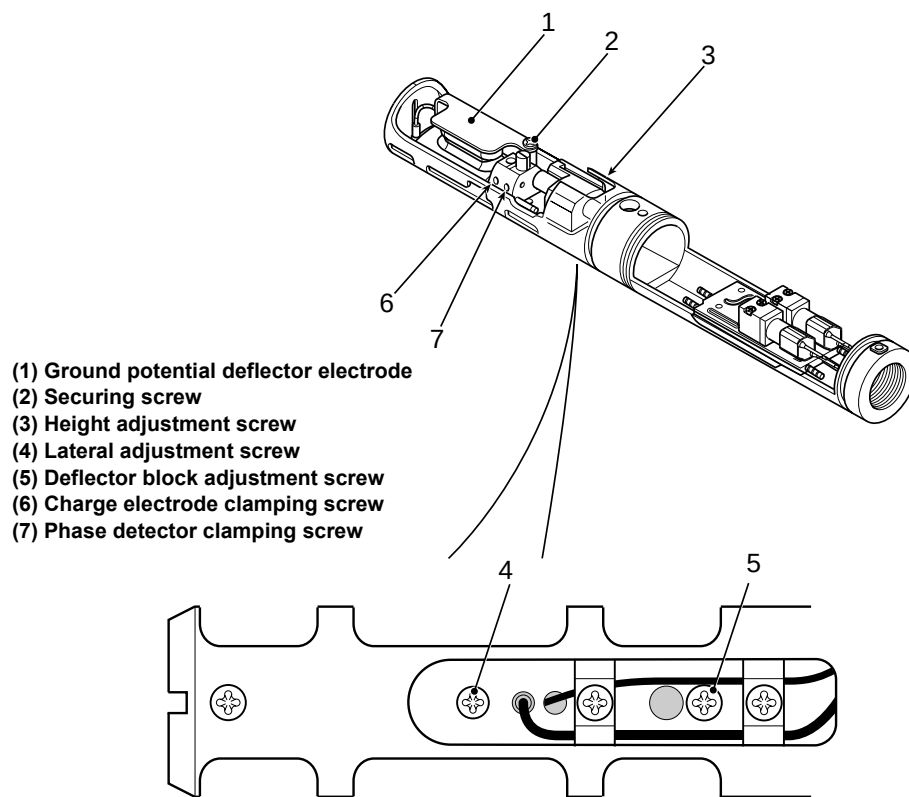

Figure 11-7. Printhead Adjustment Screw Location
- 5 Adjust the ink jet position if necessary using the lateral adjustment screws (Item 3 in Figure 11-7) and height adjustment screw (4). When the adjustment has been made ensure that the lateral adjustment screws are tight and the ink jet position is correct.
- 8 Release the lateral adjustment screw (Item 4 in Figure 11-7).
- b. For parallel adjustment release the charge electrode clamping screw (6).
- 9 Check that the ink jet is approximately 1 mm away from the phase detector. To adjust, release the phase detector clamping screw (7) and move the phase detector sensor to the correct position. Secure the phase detector clamping screw.